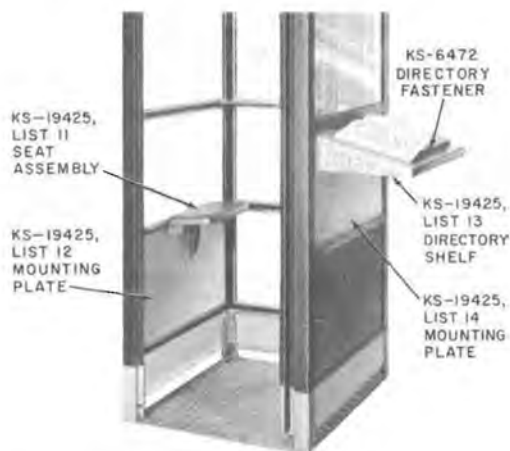

Fig. 5—KS-19425, List 11 Seat Assembly, KS-19425, List 13 Directory Shelf, and Associated Mounting
2.12 Shelf assemblies, directory racks, and associated apparatus are listed in Table D and shown in Fig. 5 through 7.
2.13 A KS-19425, List 11 seat assembly (Fig. 5) may be used if desired.
- 2.14 A KS-19425, List 12 mounting plate (Fig. 5) must be used for mounting the seat.